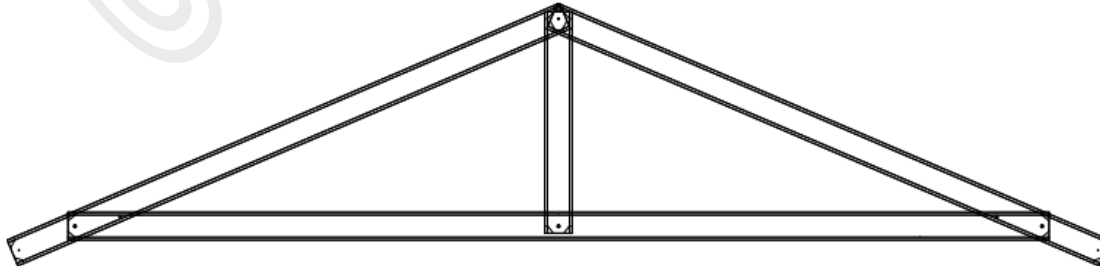

Figure 5.8 Saddle Truss
5.10) Saddle Truss: A truss with the top chords cut at the heel to form a foot cut. It is used to form a valley line when two roof planes intersect. Saddle trusses are supported by trusses or rafters below. (Refer to Figure 5.8.)